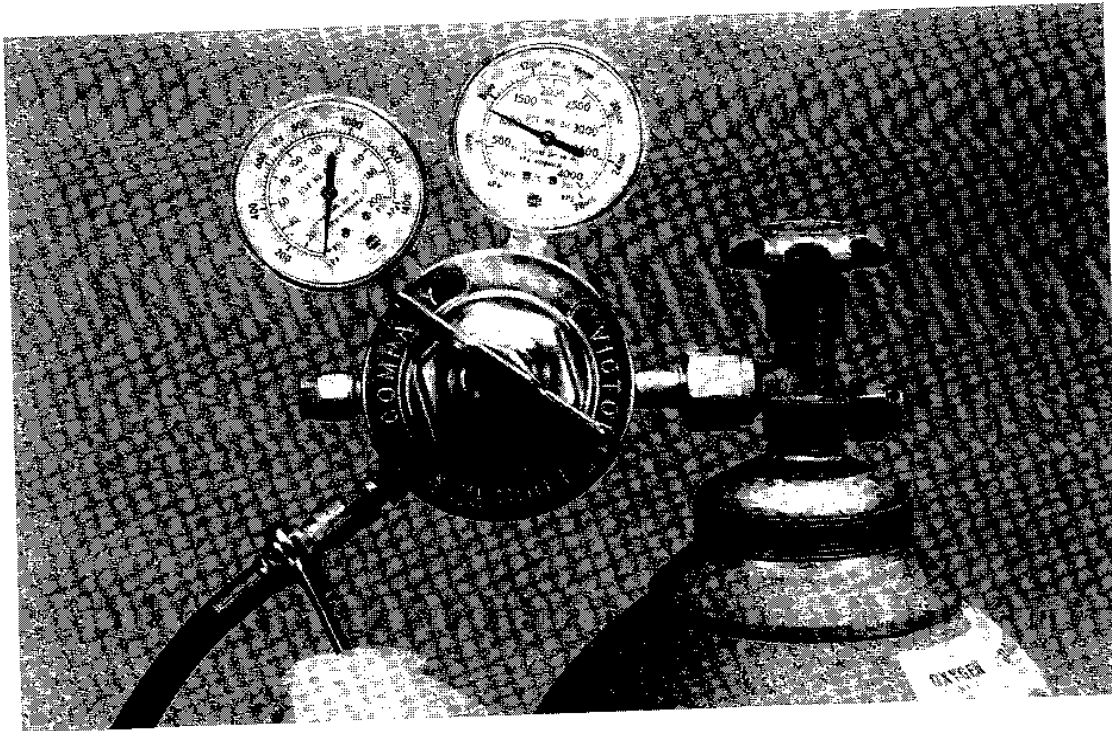

Figure 13, Connecting the Hose
1. Connect the oxygen hose to the oxygen regulator. Tighten the connection firmly with a wrench (see Figure 13, page 22).